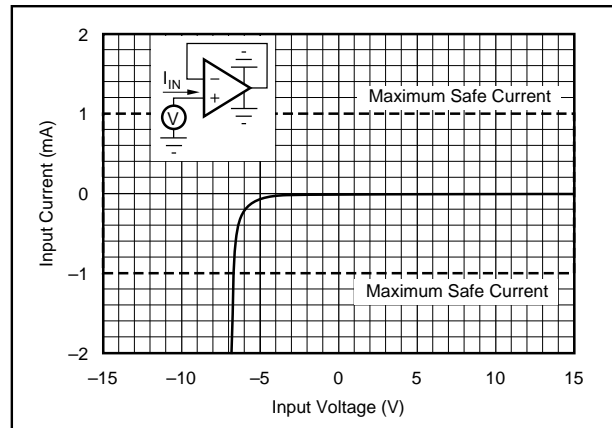

FIGURE 2. Input Current vs Input Voltage with $\pm V_{CC}$ Pins Grounded.
NOTES: (1) Packages must be derated based on $\theta_{JC} = 150^\circ\text{C/W}$ or $\theta_{JA} = 300^\circ\text{C/W}$. (2) For supply voltages less than $\pm 18\text{VDC}$, the absolute maximum input voltage is equal to $+18\text{V} > V_{IN} > -V_{CC} - 6\text{V}$. See Figure 2. (3) Short circuit may be to power supply common only. Rating applies to +25°C ambient. Observe dissipation limit and T_J .